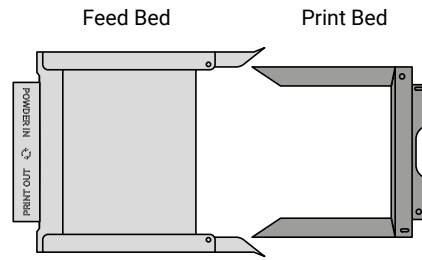

Fig. 8.3 The proper arrangement of the IO BOX, allowing the user to remove the finished printout.
6. Place the folded IO BOX inside the print chamber. Make sure its elements are arranged like in the picture (fig. 8.3).